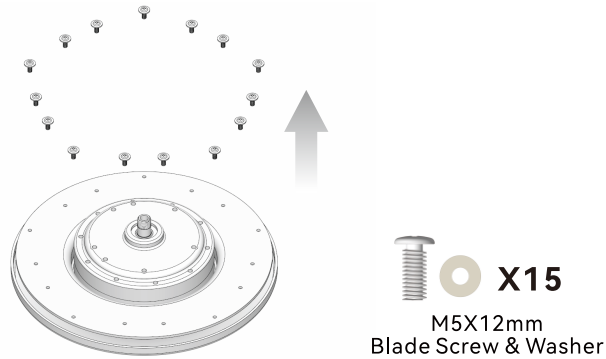

Fig. 1.1
1.1 Locate the motor assembly from the package and remove the blade screws and washers from the motor assembly, as illustrated in Fig. 1.1.